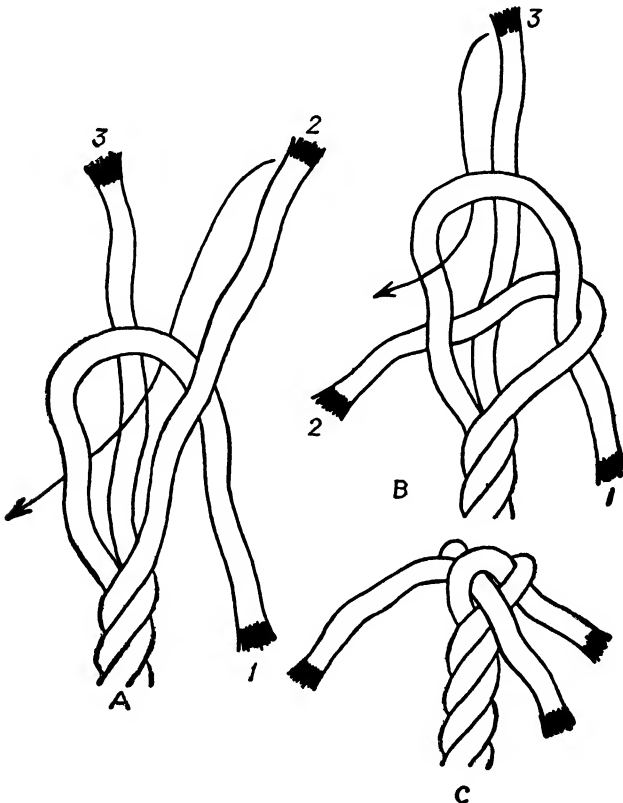

Fig. 8.3. The crown knot.
2. Bring strand 1 down between strands 2 and 3, forming a U loop (see Fig. 8-3).